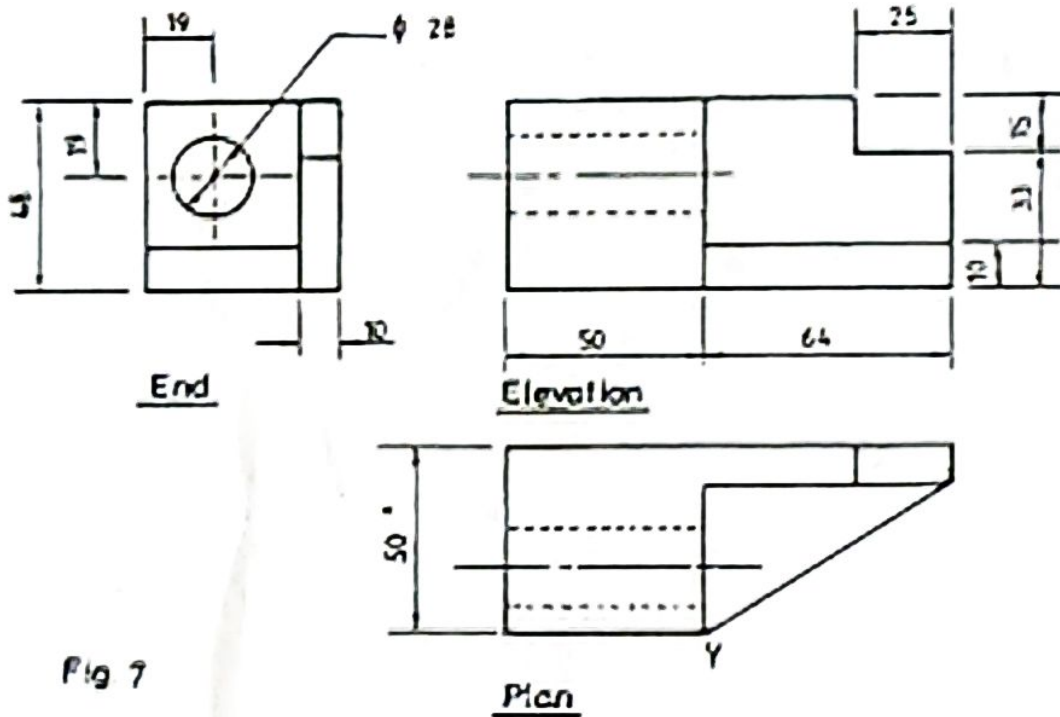

Fig 7
- 12 Figure 7 shows the three views of a machined block drawn in first angle projection. Draw, FULL SIZE, the block in Isometric projection taking corner "Y" as the lowest point (15 marks)